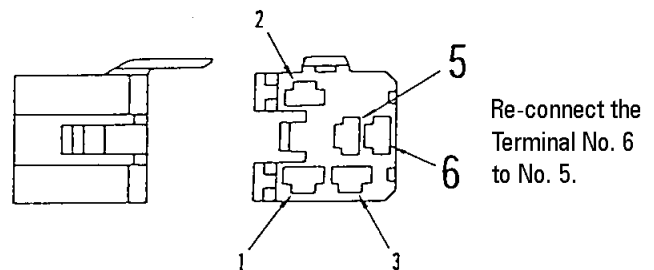

Fig. 3
- 3) Drawing out the socket as far as possible from the bracket, then pull out the Terminal No. 6. Refer to Fig. 3 to find out the pin numbers of the socket.